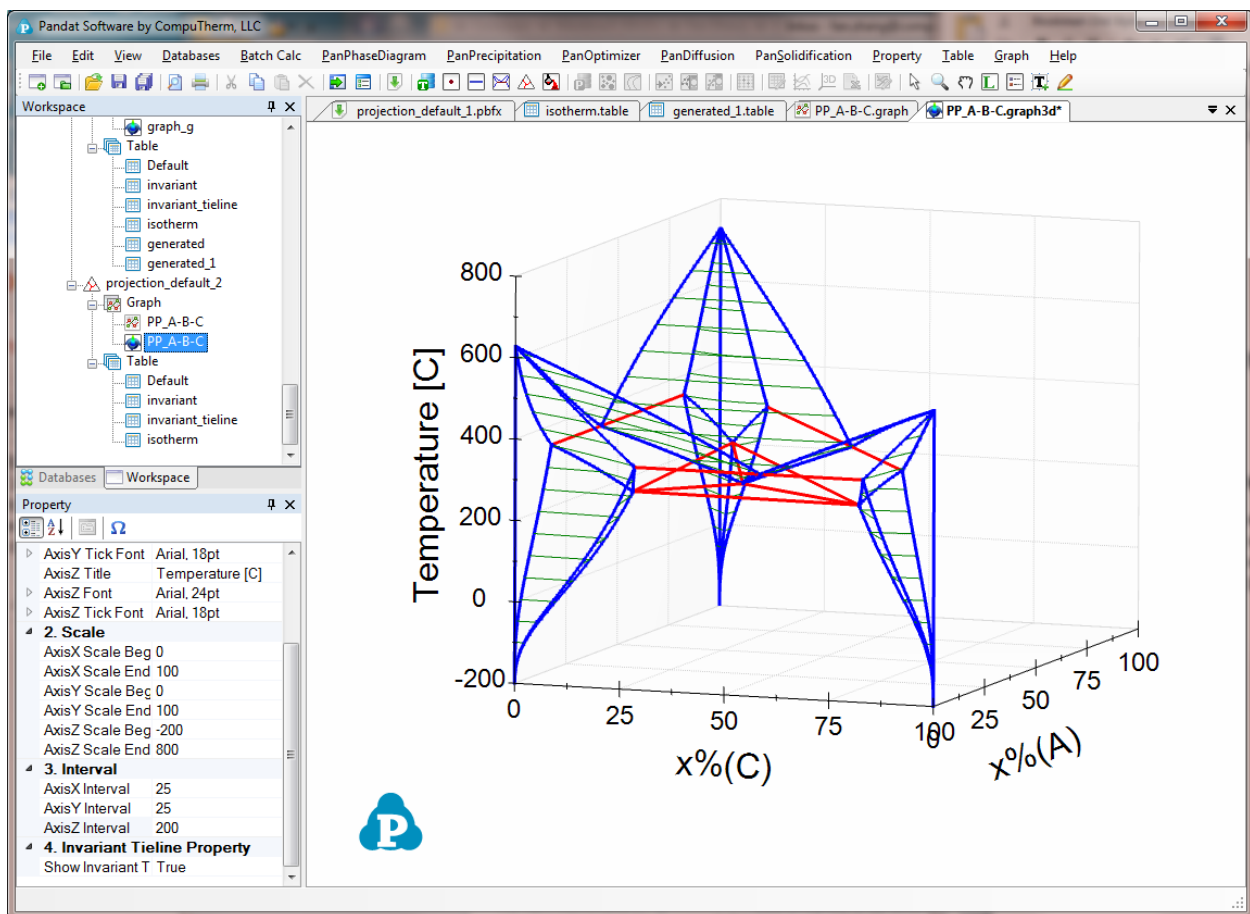

Figure 1.17.2: Calculated 3D diagram for the A-B-C system
- In the Property window, under 4: Invariant Tieline Property, choose “True” for the Show Invariant Tieline, the invariant reaction lines in the three binaries as well as in the ternary will be shown (Figure 1.17.2);